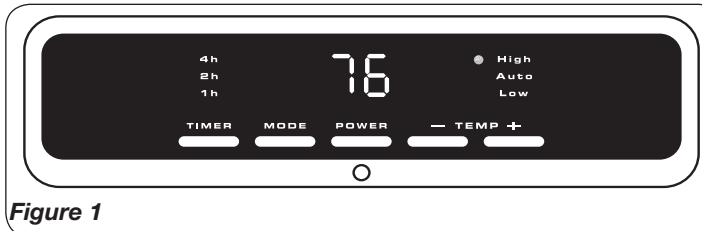

Figure 1
- Upon turning the Heater on, the unit will be in HIGH heat (1500 Watts) and will display the current room temperature (Figure 1)